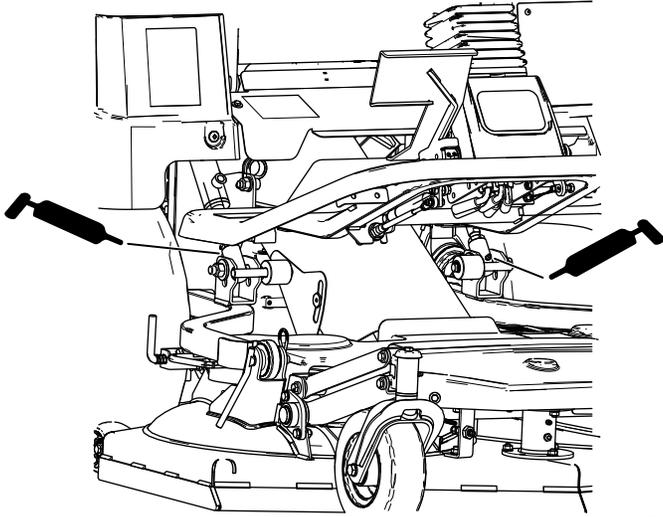

Figure 40
- Cutting unit lift arm pivot points (Figure 40)